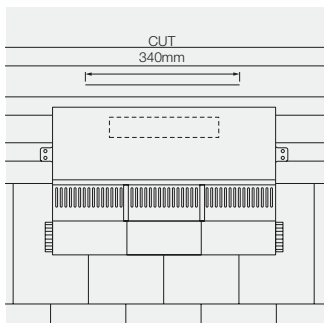

Fig. 87 – Position and fix in-line vent unit
- 4 Make a second horizontal cut 340mm wide in the underlay between the next two battens directly above the opening already created. Slide the underlay protector unit through the horizontal cut as shown (Fig. 87).